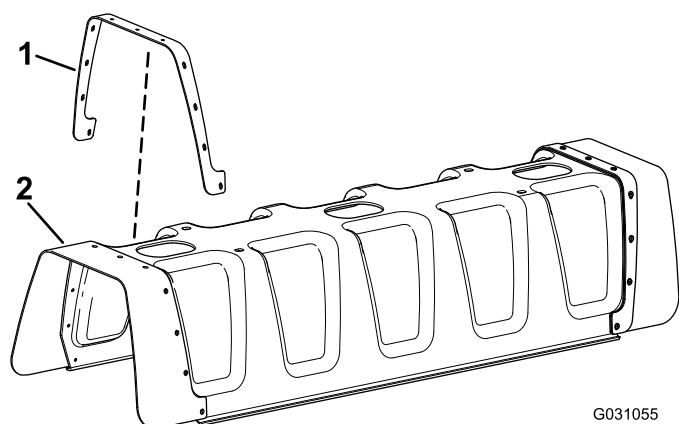

Figure 3
- Align the holes on the reinforcement plate with the holes on the rubber cover (Figure 3).